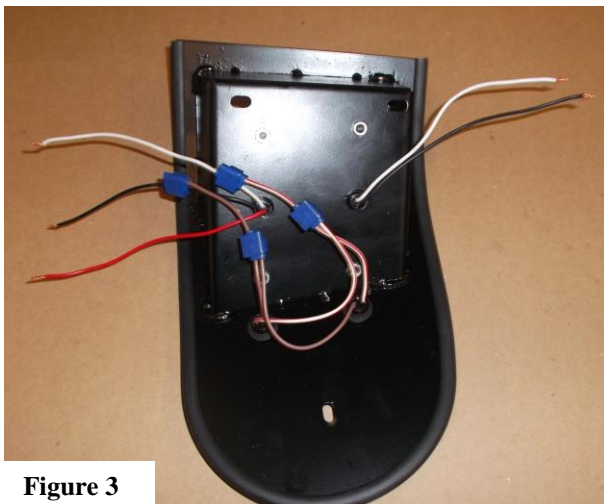

Figure 3
- c. After you have mounted the lights to the fixture, the next step is to wire the fixture prior to connecting the wiring to the vehicle. Refer to **Figure 3** as a guide.
- ii. The side marker lights will be connected to the "marker light" or "tail light" circuit. To do this, connect the White/Red stripe wire of one Red 1" light to the White/Red Stripe wire of the other Red 1" light. Connect these wires to the White ground wire of the Red rectangular S/T/T light. Repeat the procedure connecting the Brown wires of the Red 1" lights together with the Black wire of the Red rectangular S/T/T light. You can see in **Figure 3**, we have chosen to "daisy chain" the wires together.